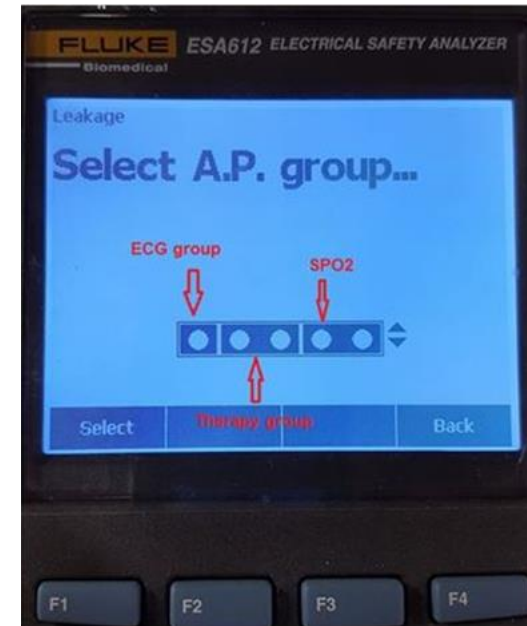

Figure 1.29: Direct Applied Part Leakage Setup
3. Press the UP/DOWN arrows to select the appropriate A.P groups as shown in Figure 1.29.